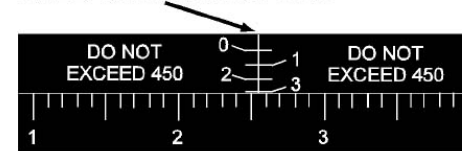

Fig. 5
12. PUMP STROKE ADJUSTMENT. The knurled ADJUSTMENT NUT on the pump head controls stroke to stroke piston displacement. Turning it clockwise to zero stops displacement. Turning the ADJUSTMENT NUT counterclockwise four and one half turns from zero (450 on scale) (fig. 5) causes maximum pump reciprocation, e.g., 50 µl per stroke for the H-0 or 100 µl for the H-1 unit. Thus each 1-1/8 turn (112.5 on scale) of the ADJUSTMENT NUT represents 25% of maximum (12.5 µl for H-0 and 25 µl for H-1) and each graduation on the ring represents an adjustment of 1/450th of maximum (0.111 µl for H-0, 0.222 µl for H-1).